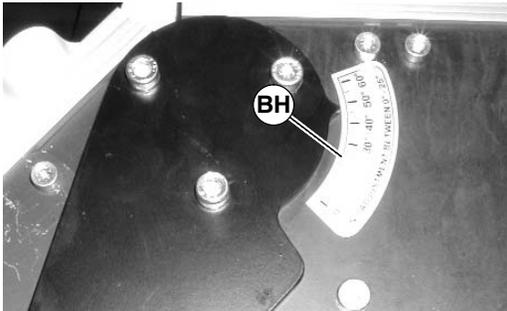

Figure 48
- Move conveyor to desired angle as indicated by angle label (BH of Figure 48).
4. Move conveyor to desired angle as indicated by angle label (BH of Figure 48).